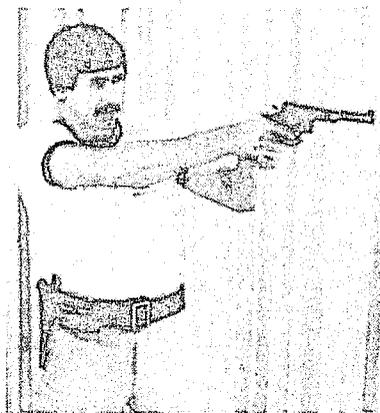

Figure 6-22
- a. The strong arm should be straight or slightly bent at the elbow which allows for better recoil control. (See Figure 6-22)